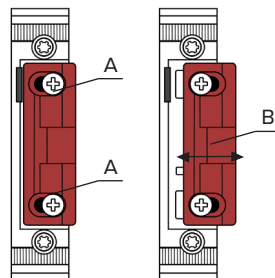

Figure 27.
Move the latch plate in the desired direction (B). Then, tighten the screws and check the closing of the door (figure 27).